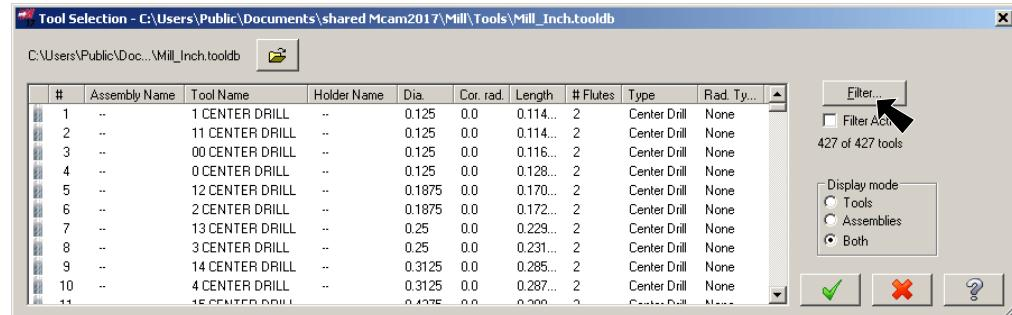

Fig. 39
Step 11. Click **Filter** in Tool Selection dialog box, **Fig. 39.**